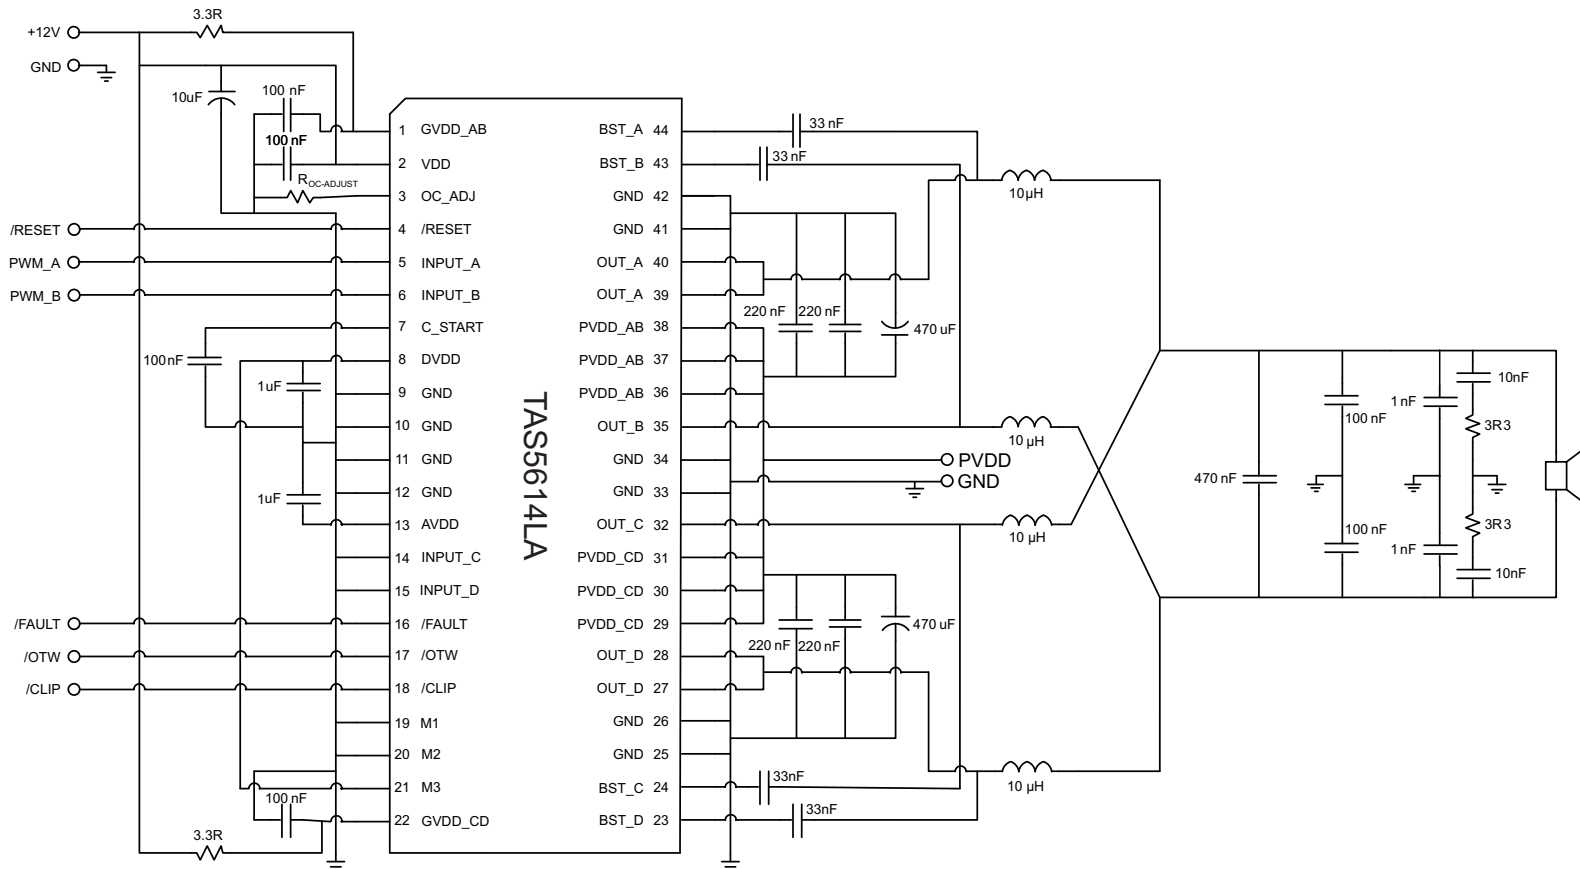

图 22. Typical Differential (2N) PBTL Application With AD Modulation Filter
See 图 22 for application schematic. In this application, one differential PWM input is used with AD modulation from the PWM modulator such as the TAS5558. AD modulation scheme is defined as PWM(+) is opposite polarity from PWM(-). The output PBTTL configuration is often used to drive lower impedance load such as a subwoofer.
- Pins 27, 28, 32, 35, 39, 40 - Output pins from half-bridges A, B, C, and D. Connect appropriate bootstrap capacitors and differential LC filter as shown in 图 22.
- Pins 29, 30, 31, 36, 37, 38 - Power supply pins to half-bridges A, B, C, and D. A and B form a full-bridge and C and D form another full-bridge. A 470-uF bulk cap is recommended for each full-bridge power pins. Two 0.22-μF decoupling capacitors are placed on each full-bridge power pins. See 图 22 for details.